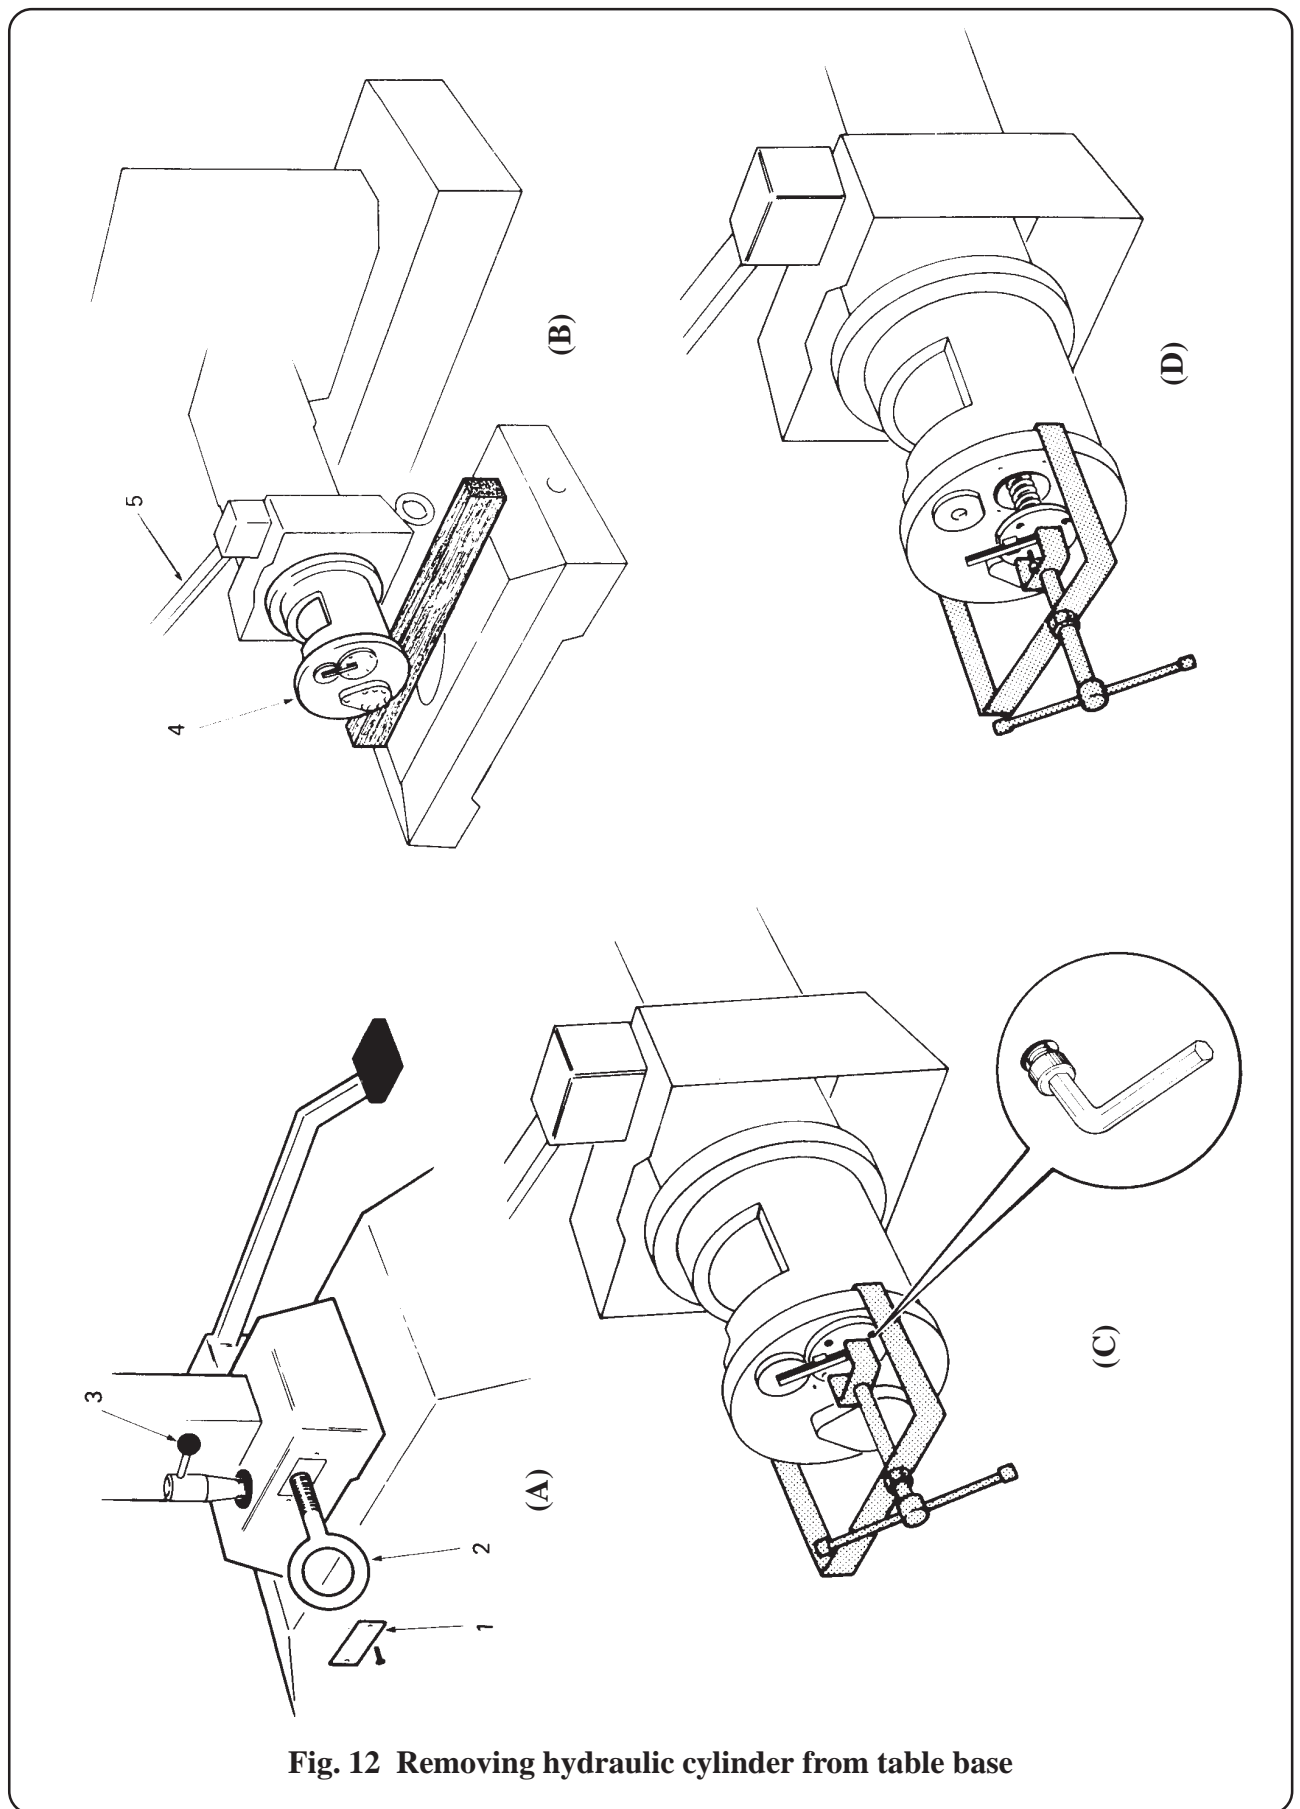

Fig. 12 Removing hydraulic cylinder from table base
completely loose then remove clamp and ram release (see Fig. 12(d)).
- ii Refer to Fig. 12 and remove plate (1) from cylinder base cover and secure into the exposed tapped hole the lifting eyebolt (2) which is provided in the table tool kit Part No. 751030 (see Illustrated Parts List, T-IPL6).
- iii Turn cylinder locking lever (3) fully counter-clockwise and remove it.
- v When the bottom end of the ram cylinder is lifted clear of the table base, swing the table top and cylinder so that the cylinder (4) is almost horizontal then lay the table top onto a low support, pump pedal (5) uppermost, with the bottom of the cylinder resting on a strong wooden batten placed across the well of the base; this will allow surplus oil to drain into the base.